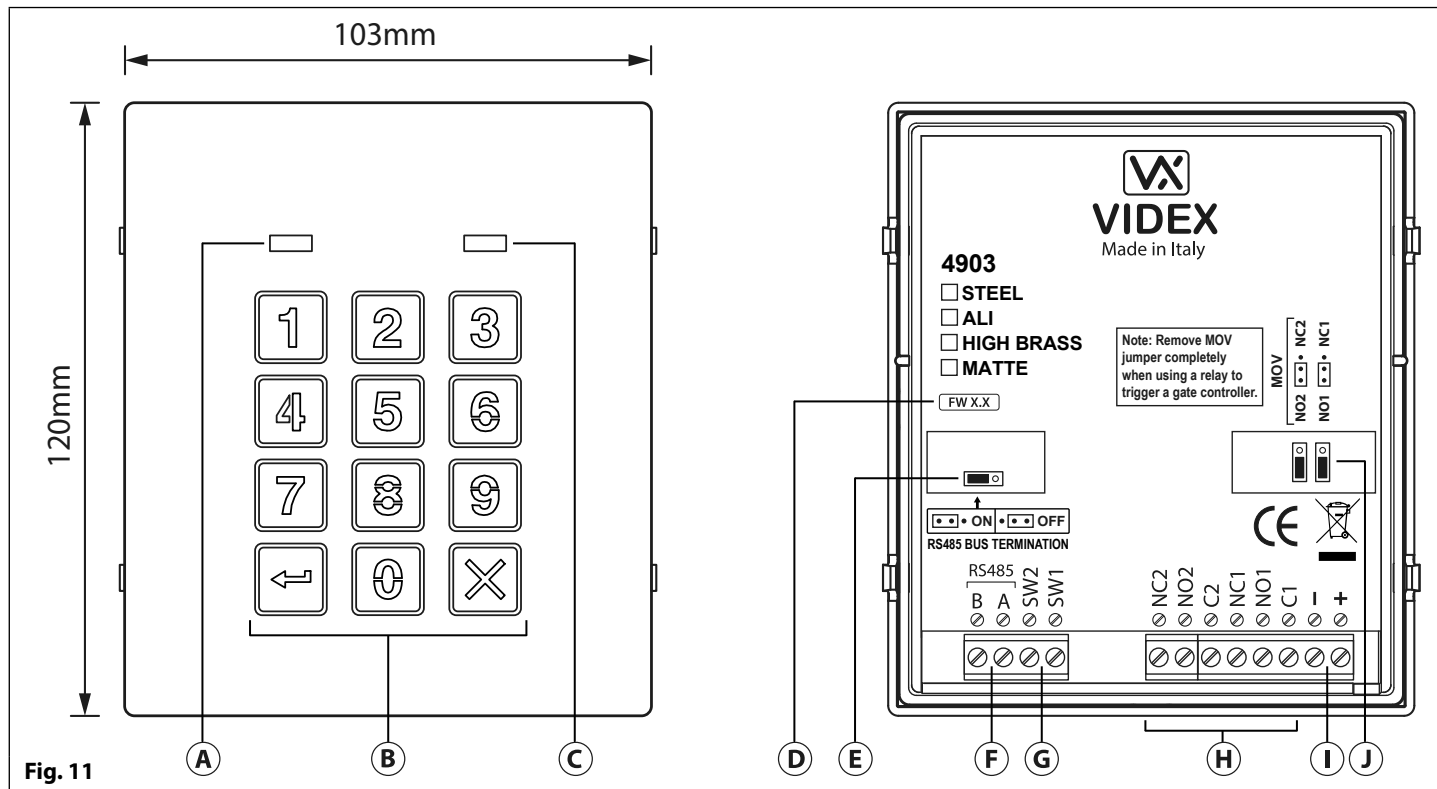

Fig. 11
The module features 12 stainless steel buttons, backlit in blue (keys 0 - 9, ENTER and CLEAR), 2 LED's (green LED = data, red LED = status indication) for progress information during use and programming and a stainless steel or aluminium front plate, see Fig.11. With two integral relays (RLY1 and RLY2) each with common (C), normally open (NO) and normally closed (NC) connections and two switched 0V push to exit inputs SW1 and SW2 to enable the external triggering of the relays. Key presses are signalled acoustically while each button press has a tactile feel. Entering the correct code followed by ENTER will activate the relevant relay.
4. When power is restored to the code lock wait for the module to emit a beep and wait for the red status LED (**Fig.11, C**) to stop flashing;
3. When power is restored to the keypad the backlit key buttons will illuminate (**Fig.11, B**). Wait for the keypad to emit a low level tone then wait for the red status LED (**Fig.11, C**) to switch ON;
4. Release the **0** button then enter the unit ID required for the Art.4903 (1 - 8) using the keypad (**Fig.11, B**). The red status LED will switch OFF and the keypad will play a short melody. Observe the red status LED (**Fig.11, C**) as this will flash as many times as the unit ID being set (e.g. if the unit ID is set to ID.8 the red status LED will flash 8 times);